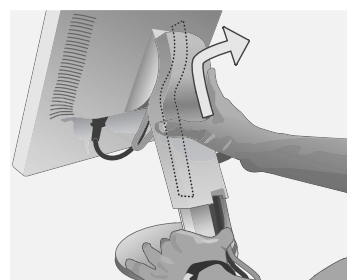

**Figure C.4**
7. Place the D-Sub into the specific hooks indicated in **Figure C.4**.
8. Make sure all cables are resting flat against the stand (**Figure C.4**).